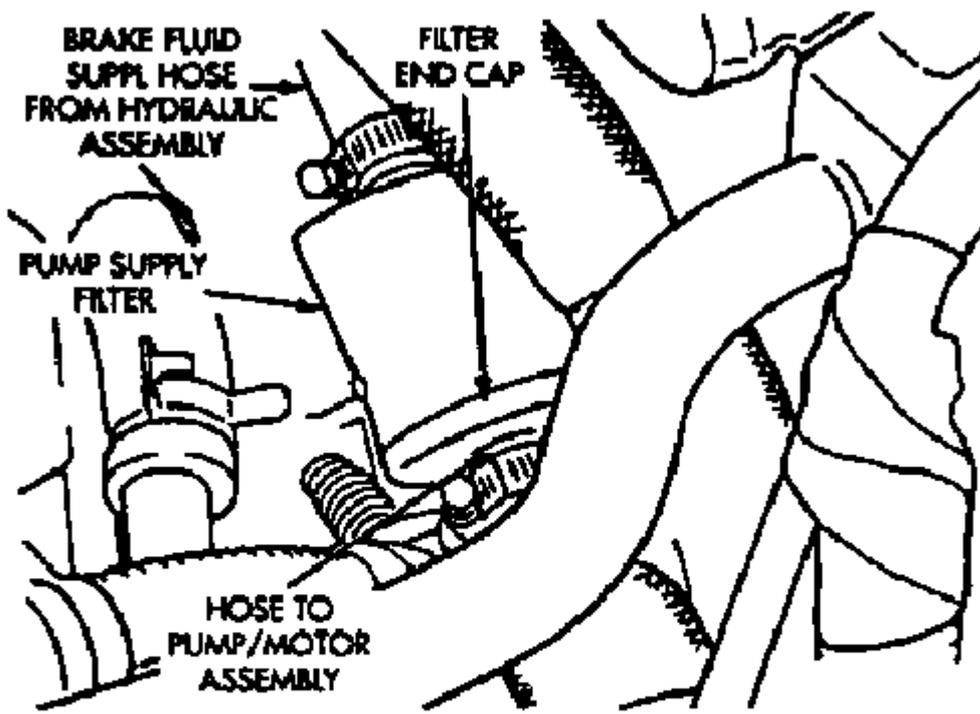

Figure 4
6. Remove the hose clamps and pump supply filter from the hose sections. Discard the hose clamps and filter (Figure 4).